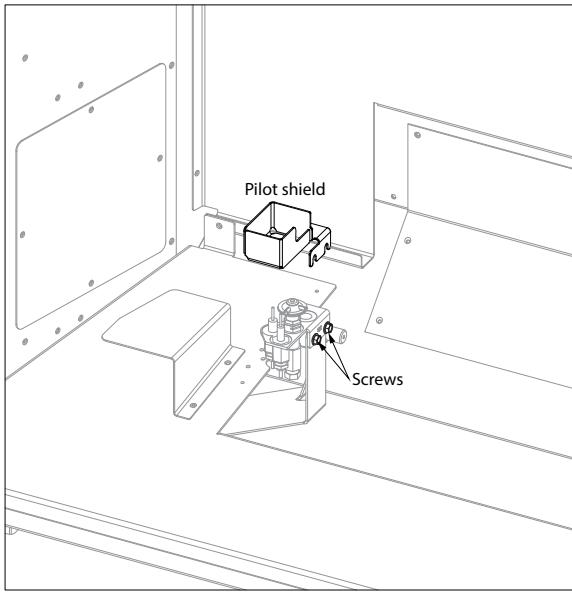

Figure 2.4, #ALP-36S Pilot Shield Installation
2. Loosen, but do not remove, the (2) screws securing the pilot assembly to the pilot bracket.
3. Insert the pilot shield slots onto the pilot bracket screws, as shown in Figure 2.4.